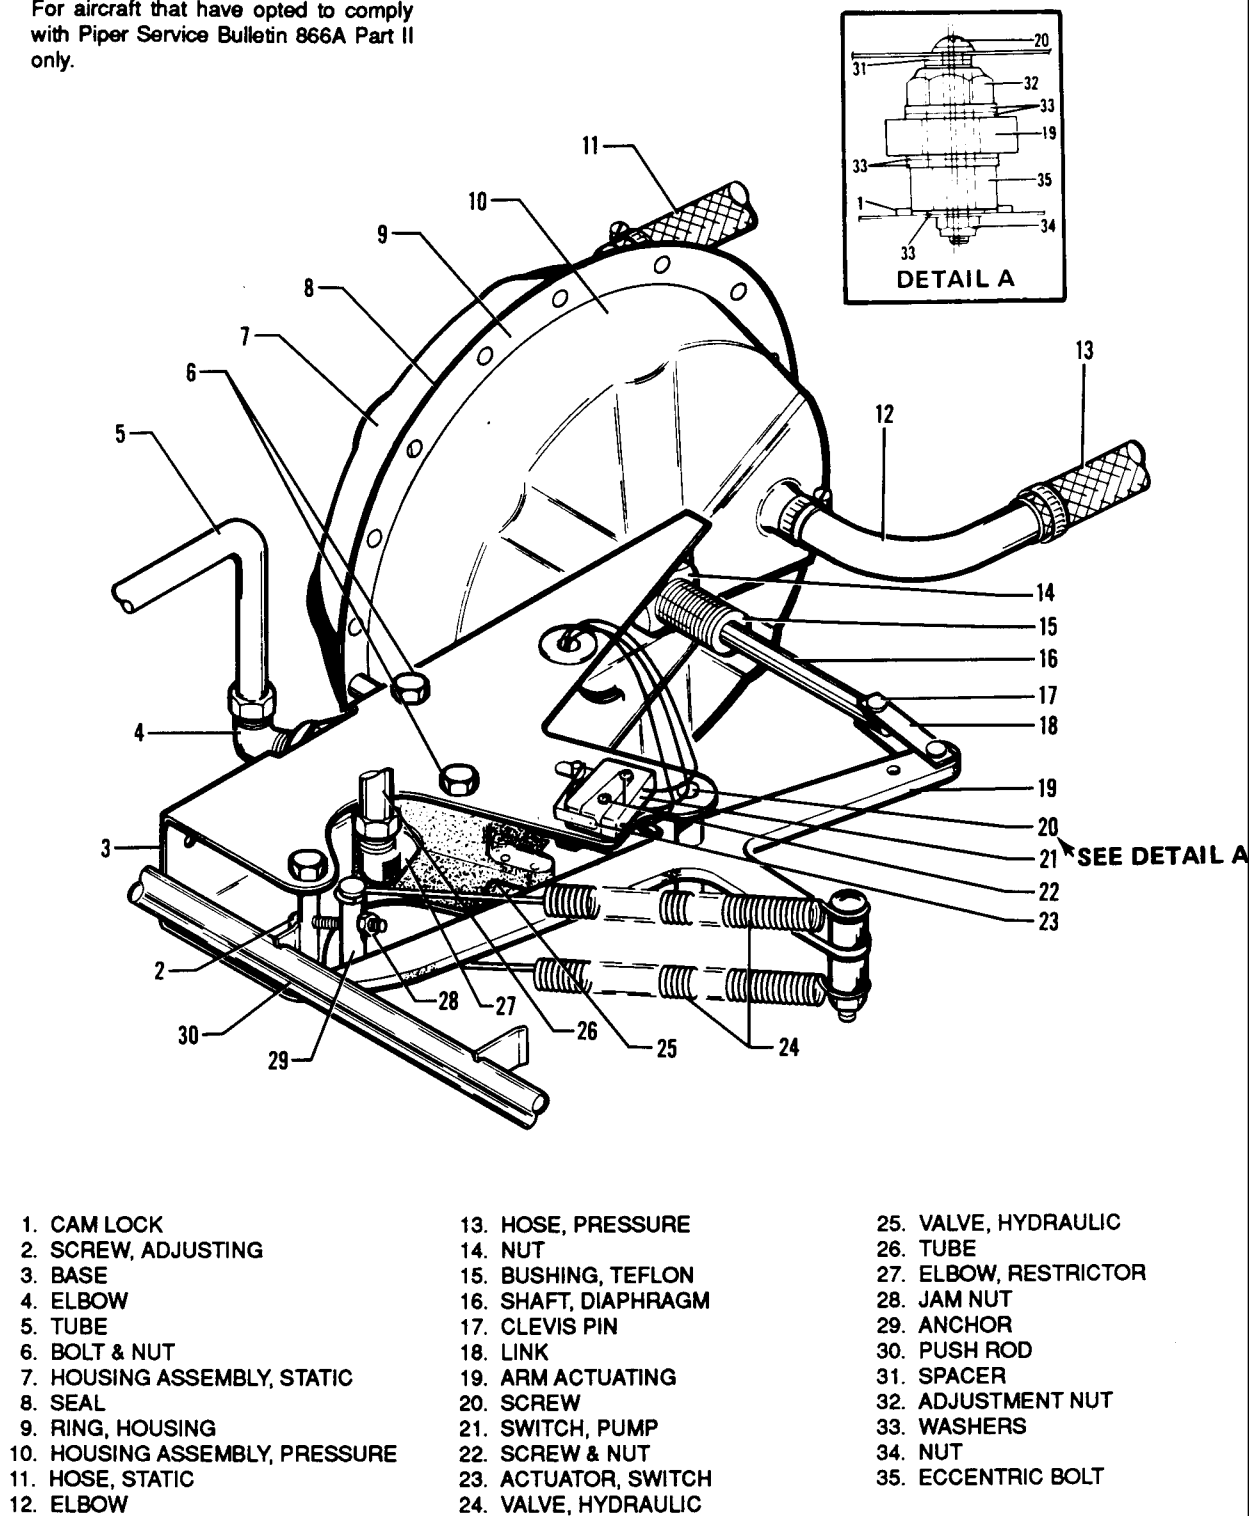

Figure 6-6. Gear Back-up Extender Actuator
6-12. REMOVAL OF GEAR BACK-UP EXTENDER ACTUATOR ASSEMBLY. (Refer to Figure 6-6.) The back-up extender actuator is located under the rear seat. To reach the actuator, remove the rear seats.
6-13. INSTALLATION OF GEAR BACK-UP EXPENDER ACTUATOR ASSEMBLY. (Refer to Figure 6-6.)
*Care should be used when attaching the forward hose (13) to the diaphragm assembly (10) so that no strain is placed on the teflon bushing (15) and diaphragm shaft (16), thus causing friction in movement.*
- c. Connect the hydraulic lines (5) and (26) to the elbows (4) and (27) of the actuator hydraulic valve (25).
*A special fitting (27) with a restriction orifice of .063 of an inch is installed in the side of the hydraulic valve (25). Do not mistake this for a standard AN fitting.*
- d. Connect the pressure (13) and static (11) hoses to the elbows (12) of the diaphragm housing (10). Secure hoses with clamps.
**6-14. CHECK FOR ADJUSTMENT OF GEAR BACK-UP EXTENDER ACTUATOR. (Refer to Figure 6-6.)**
- b. Adjustment of the gear back-up extender actuator is preset to allow the hydraulic valve (25) of the actuator to open when the airspeed is reduced below 103 KIAS for PA-28R-201T or 95 KIAS for PA-28R-201 with the engine power OFF. This adjustment is accomplished by setting the tension of spring (24) on the actuator with adjustment screw (2) as follows:
*The micro switch (21) and eccentric bolt (35) must not be adjusted. These components are set at the factory under specific conditions, with the use of special set-up equipment.*